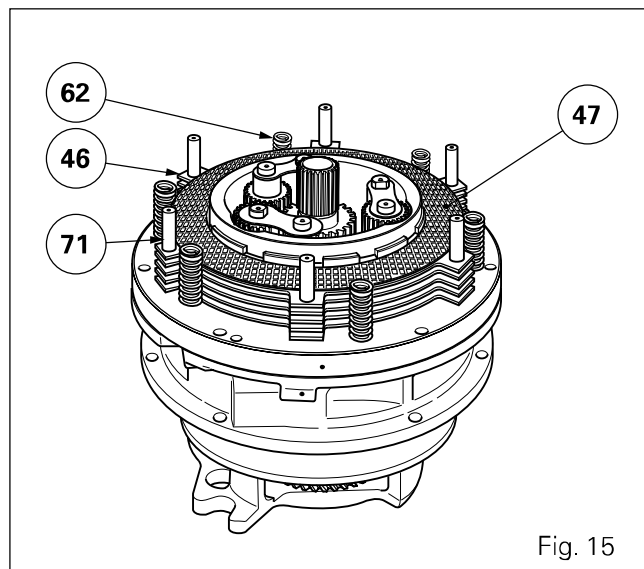

Fig. 15
80. Fit the front snap ring (61).
81. Soak the discs (47) in a transmission oil bath for approximately 1 hour. Check that they are correctly saturated.
82. Fit the discs (47) and the intermediate plates (46) depending on the type of tractor (see Remark and Fig. 15).